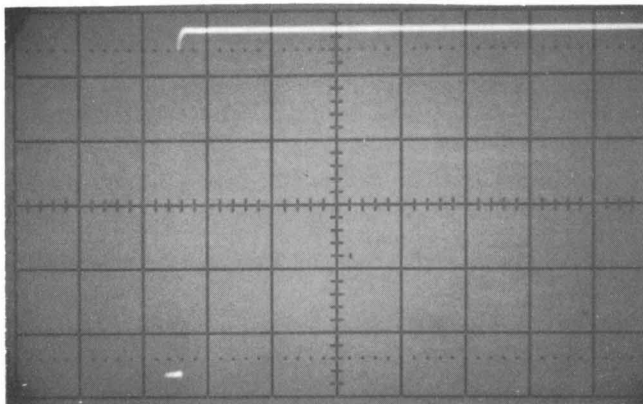

Figure 5-9. Mid-Frequency Response Preliminary Adjustment
d. Set TRIGGER LEVEL for stable display and adjust Mid Freq. Response C22 to drop leading corner of pulse about 0.2 cm (see figure 5-9).